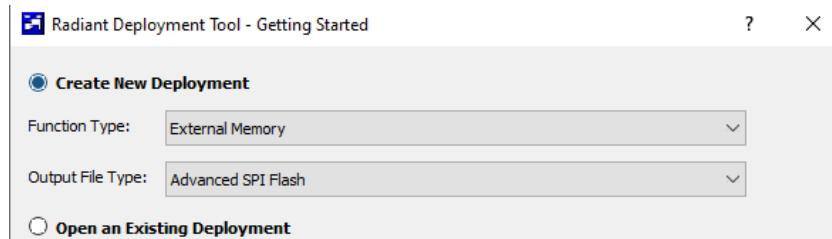

Figure 8.63. Options for Creating New Deployment
5. Apply the settings shown in Figure 8.63 and click OK.